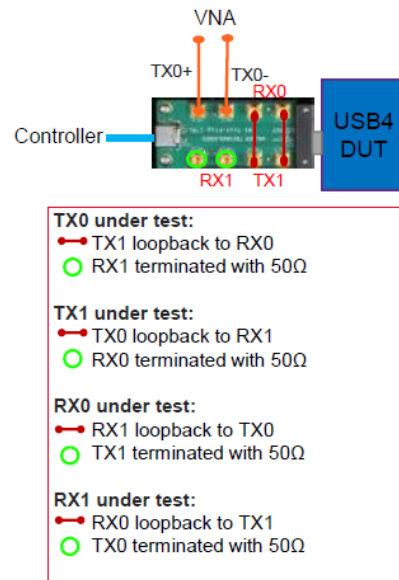

Figure 126 SMP test fixture - Tx/Rx lane switching
- 8 In case of SMP test fixture, Tx/Rx lane under test can be switched as shown in Figure 126.